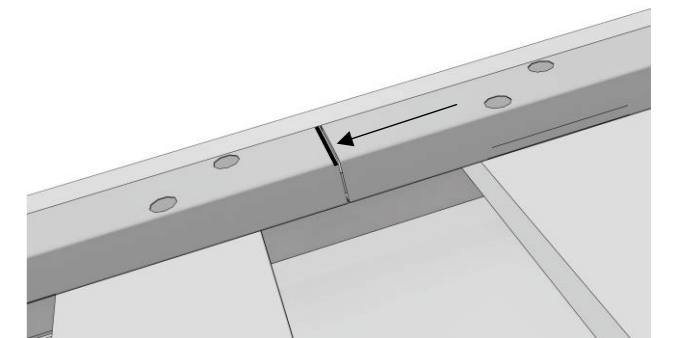

Fig. 13b
- Install the next strip in the way it comes into contact with the one already installed (Fig. 13b).